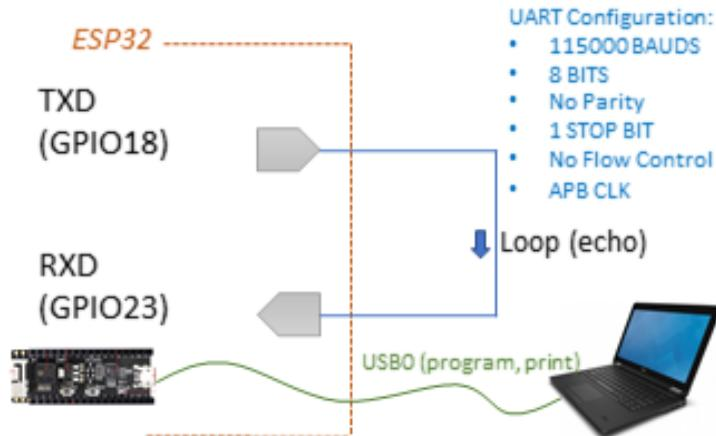

FIGURE 3.1 – Echo application.
4. Complete the code for the UART configuration depicted in the figure 3.1. Help you of the *uart_config_t* type of from Visual Studio Code and from the UART Web help